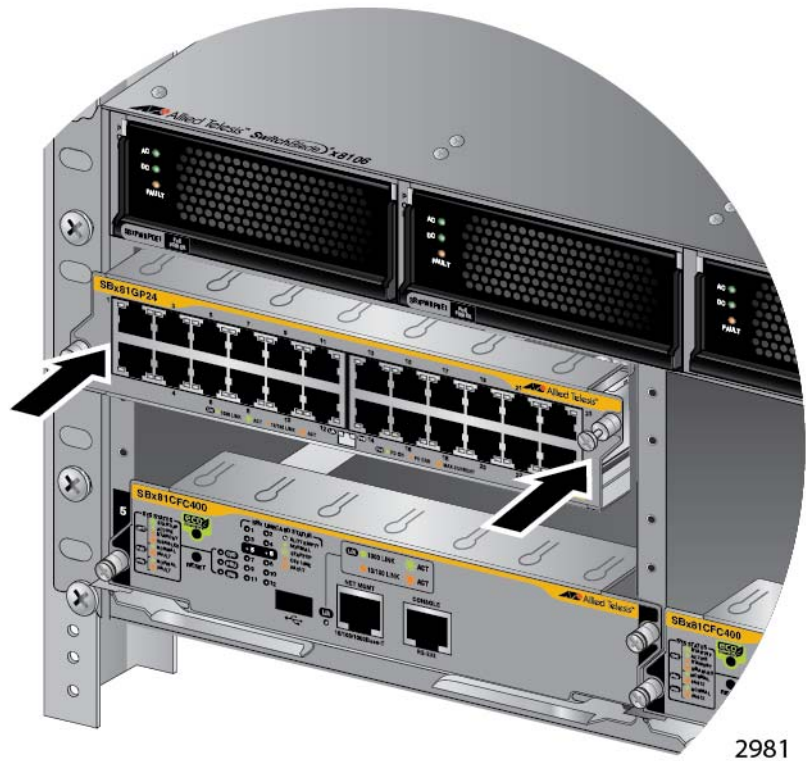

Figure 90. Seating an Ethernet Line Card on the Backplane Connector
7. When you feel the line card make contact with the connector on the backplane of the chassis, gently press on both sides of the faceplate to seat the card on the connector. Refer to Figure 90 on page 151.